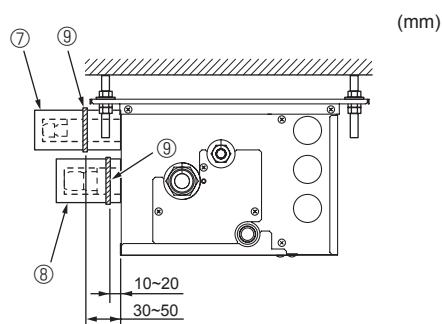

Fig. 7-5
- ⑥ Band ⑨
- ⑦ Pipe covers ③ ④ ⑤ ⑥
- ⑧ Tighten
- ⑨ Refrigerant piping
- ⑩ Thermal insulation for refrigerant piping
► Use the following procedures for indoor connection part which indoor unit is not connected. (Fig. 7-5)
- (1) In order to prevent refrigerant leaks, make sure that the flare nuts are tightened according to the specified torques\* in Table 3.